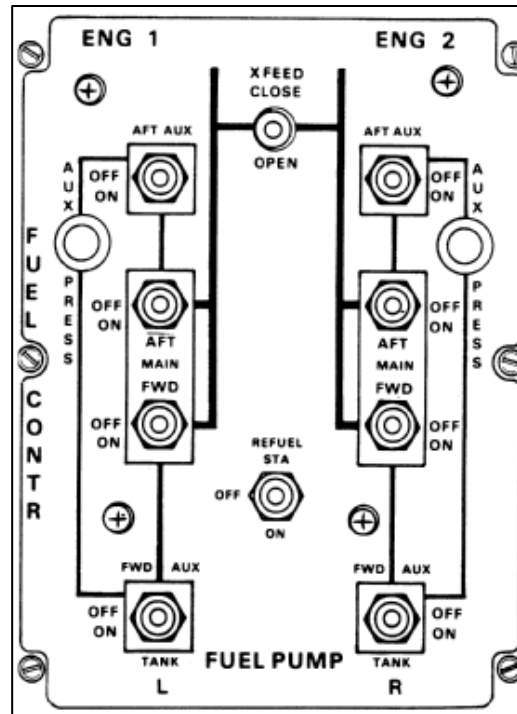

Figure 18. Fuel Control Panel
37. Turn REFUEL STATION ON-OFF switch on Fuel Control panel ON (Figure 18).